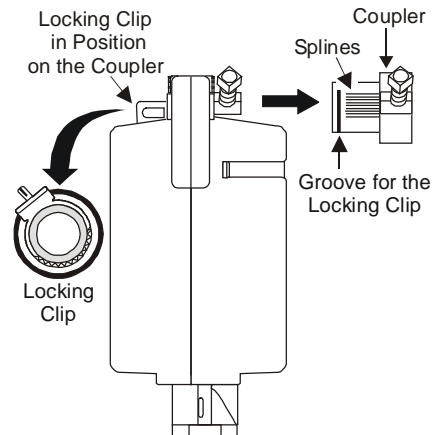

Figure 6: Changing the Position of the Coupler
7. If the coupler is on the top side of the actuator, remove the coupler. To change the coupler's position, pull the locking clip off the coupler, and remove the coupler of the actuator. Reinsert the coupler into either the Clockwise (CW) or Counterclockwise (CCW) face of the actuator. The coupler splines are designed to prevent inserting the coupler at the wrong end of the rotation range. See Figure 6.